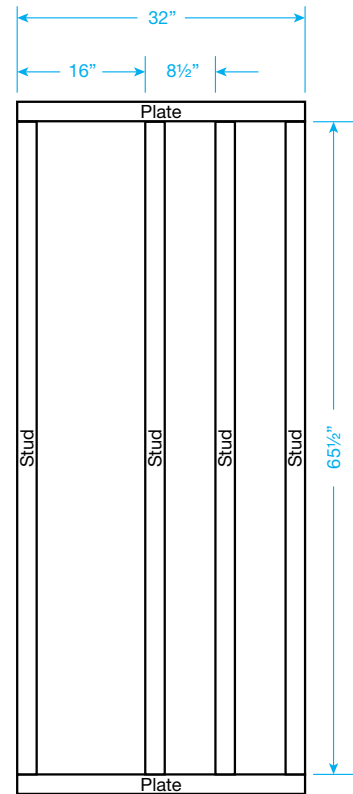

Fig. 1
Step 1: Using the measurements in Fig. 1, mark the stud locations on the top and bottom plates.
Step 2: Following Fig. 1 measurements, lay out the plates and studs.